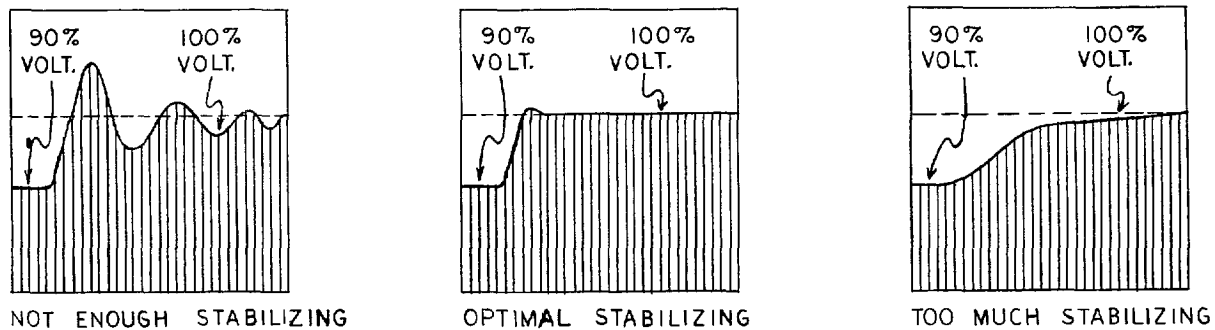

Figure 2. Oscillograms For Stabilizing Adjustment.
- b. Connect a normally open (NO) pushbutton or switch across potentiometer A3P VOLTAGE LEVEL.
- c. Monitor the exciter terminal voltage with an oscilloscope or recorder. If an oscilloscope is used, a low sweep frequency should be used and the vertical positioning should be adjusted to monitor the peak AC voltage. See Figure 2.
- f. As the pushbutton or switch across A3P is operated, a 10% change in the voltage reference will be introduced and an oscillation in terminal voltage will occur. Adjusting STABILIZING A5P will dampen this oscillation. Increasing GAIN A4P will improve response. For stabilizing, A5P acts as a fine adjustment and the combination of jumpers on 2TB acts as a coarse adjustment. Increase GAIN gradually, continually adjusting the stabilizing RC (A5P and jumpers on 2TB) until optimum response is obtained. See Figure 2 for illustration of optimum response. As gain is increased, the voltage adjustor should be
used and the vertical positioning should be adjusted to monitor the peak AC voltage. See Figure 2.
- g. As the pushbutton or switch across A205P is operated, a 10% change in the voltage reference will be introduced and an oscillation in terminal voltage will occur. Adjusting STABILIZING A202P will dampen this oscillation. Increasing gain A203P will improve response. For stabilizing, A202P acts as a fine adjustment and the combination of jumpers on 2TB acts as a coarse adjustment. Increase GAIN gradually, continually adjusting the stabilizing RC (A202P and jumpers on 2TB) until optimum response is obtained. See Figure 2 for illustration of optimum response. As gain is increased, the voltage adjustor should be readjusted to maintain the desired terminal voltage.